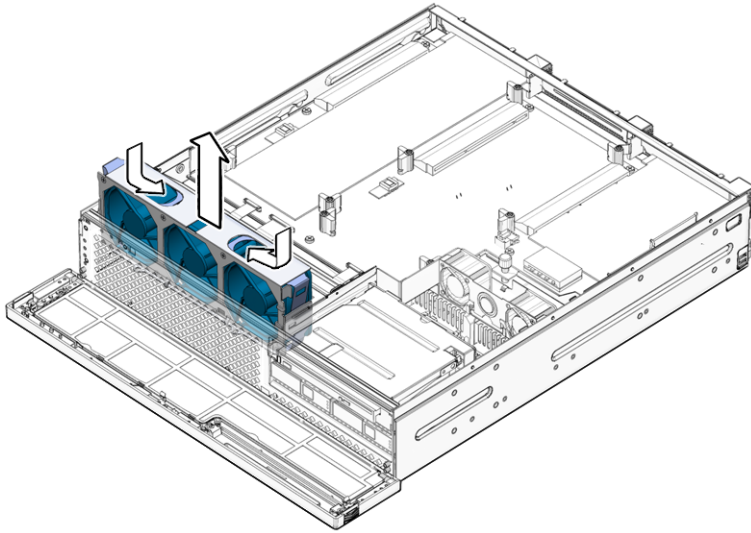

FIGURE 5-9 Lifting the Fan Assembly From the Chassis
4. Insert your forefinger and thumb into the holes at the top of the fan assembly, squeeze them together, and lift the fan assembly from the chassis (FIGURE 5-9).